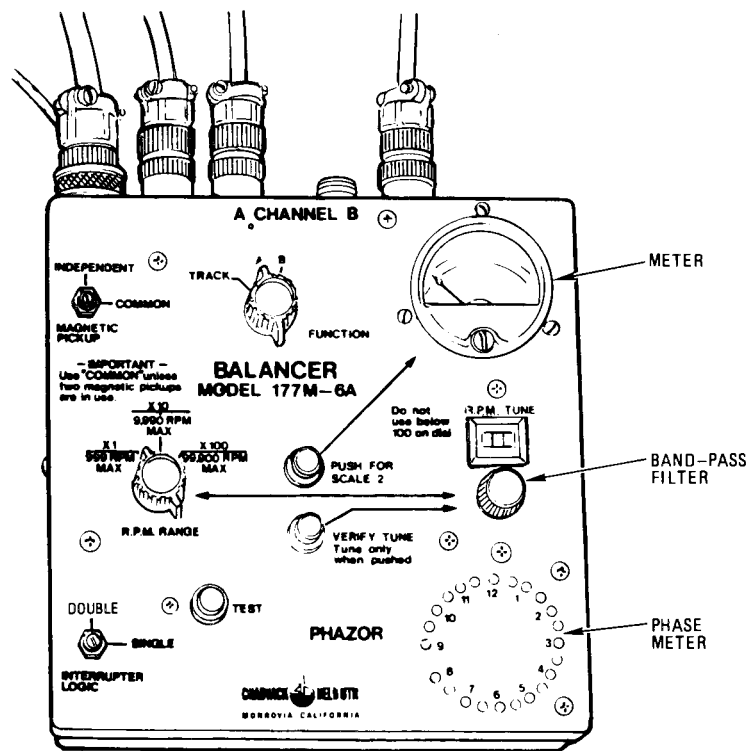

Figure 1-2. Balancer/Phazor 177M6A
*a. Balancer/Phazor 177M6A.* The key feature of the Balancer/Phazor (fig. 1-2) (hereafter referred to as Balancer) is a tuneable, electronic bandpass filter which is tuned to reject all but one frequency, or vibration under study. The meter reads the level of vibration at the rate (RPM) of concern, which is indicative of the amount of the required change (track or balance). The Phazor section contains a phase meter that reads clock angle, or phase angle, between a one-per-revolution Magnetic Pickup azimuth signal from the rotor and a vibration signal from the Accelerometer.